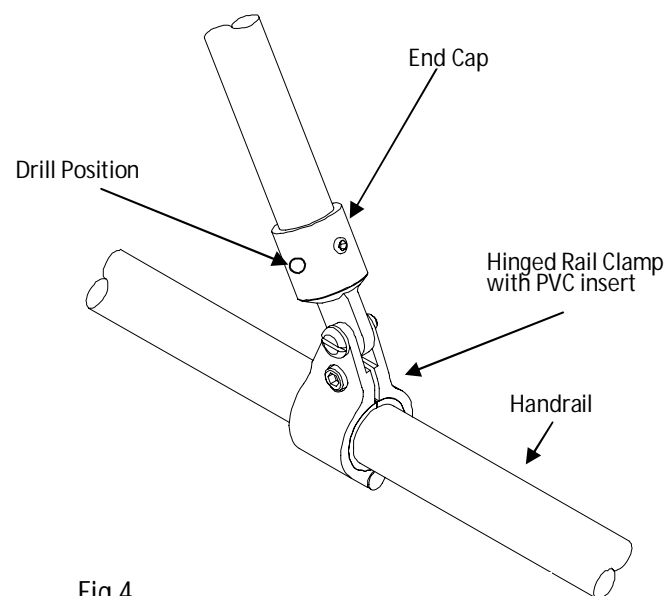

Fig 4
- Fit the End Caps to the pole using the guy brackets supplied with the pole kit (see Fig.3) and the Hinged Rail Clamps and End Caps to the rail in the desired position (see Fig.4).